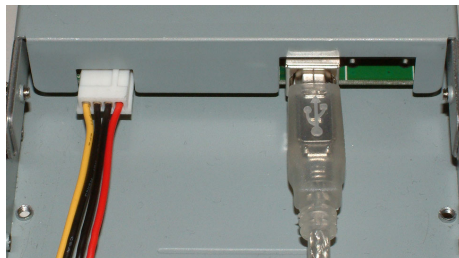

Figure 2
3. Connect an available 4-pin floppy drive power cable from your computer to the power connector on the reader. (See Figure 2)
4. The reader is supplied with two different types of USB cable. One can be used to connect the reader to the motherboard USB header (5-pin connector). The other can be used to connect the reader to a USB add-in card (Type A connector). Connect the Type B connector of the desired cable to the Type B USB connector of the reader. (See Figure 2)